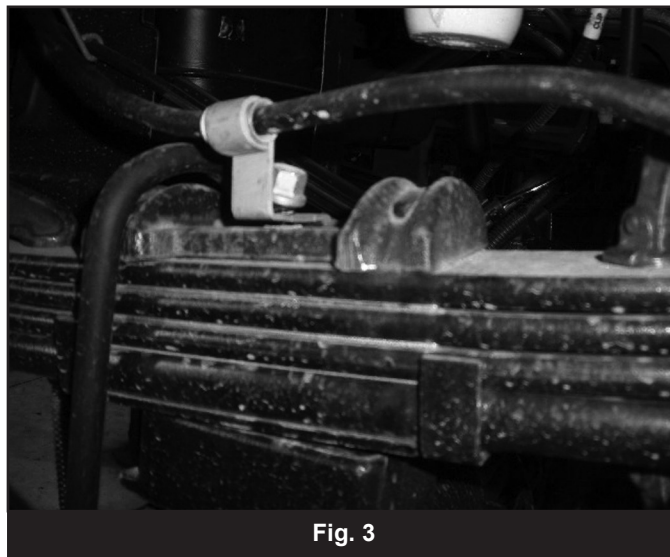

Fig. 3
10. Repeat block installation of the driver's side. Take care not to over extend the brake lines. **Note:** *The parking brake cable bracket will need to be removed from the spring center pin. (Fig 3)*